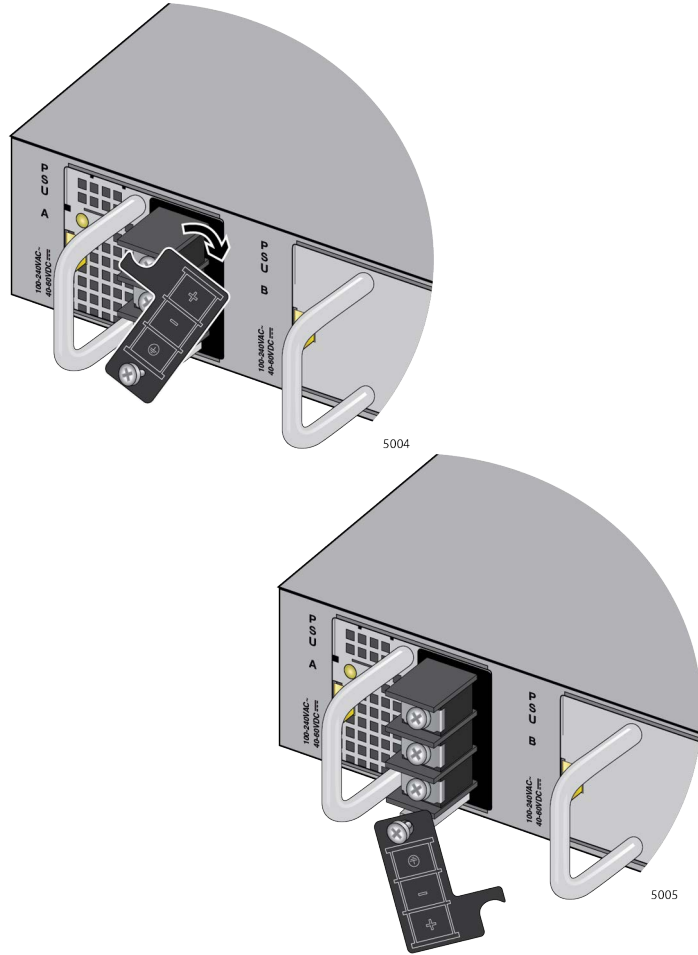

Figure 96. Accessing the Connectors
3. Pivot the panel to the right to expose the connectors. Refer to Figure 96 on page 169.
1. Strip 6.5mm (0.25 in.) of insulation from the end of the stranded power wires with a wire insulator stripper. Refer to Figure 96.